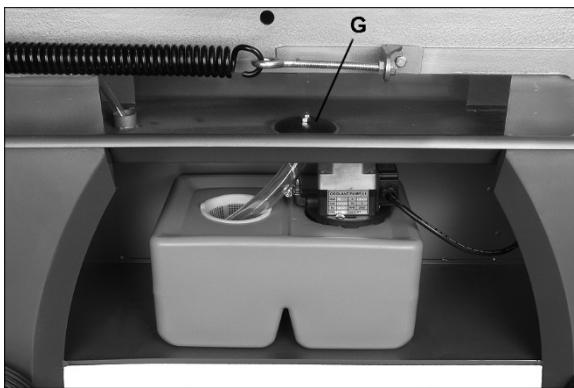

Figure 6-13: Coolant Tank
10. Place the filter assembly (G, Figure 6-13) over the drain hole and install the hose under the filter tube.
- 3) Make sure coolant hose is properly connected at each end, and return hose is connected to drain hole and positioned in strainer cup, as shown in Figure 6-13.